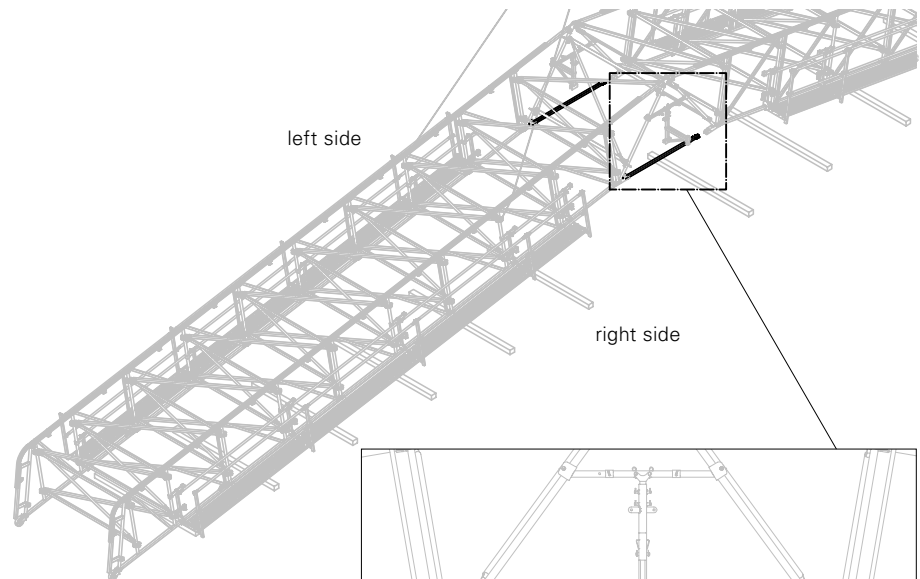

Fig. A5.03
5. Insert Bolts through the holes and secure with Cotter Pins – 2x. (Fig. A5.03 + A5.03a)